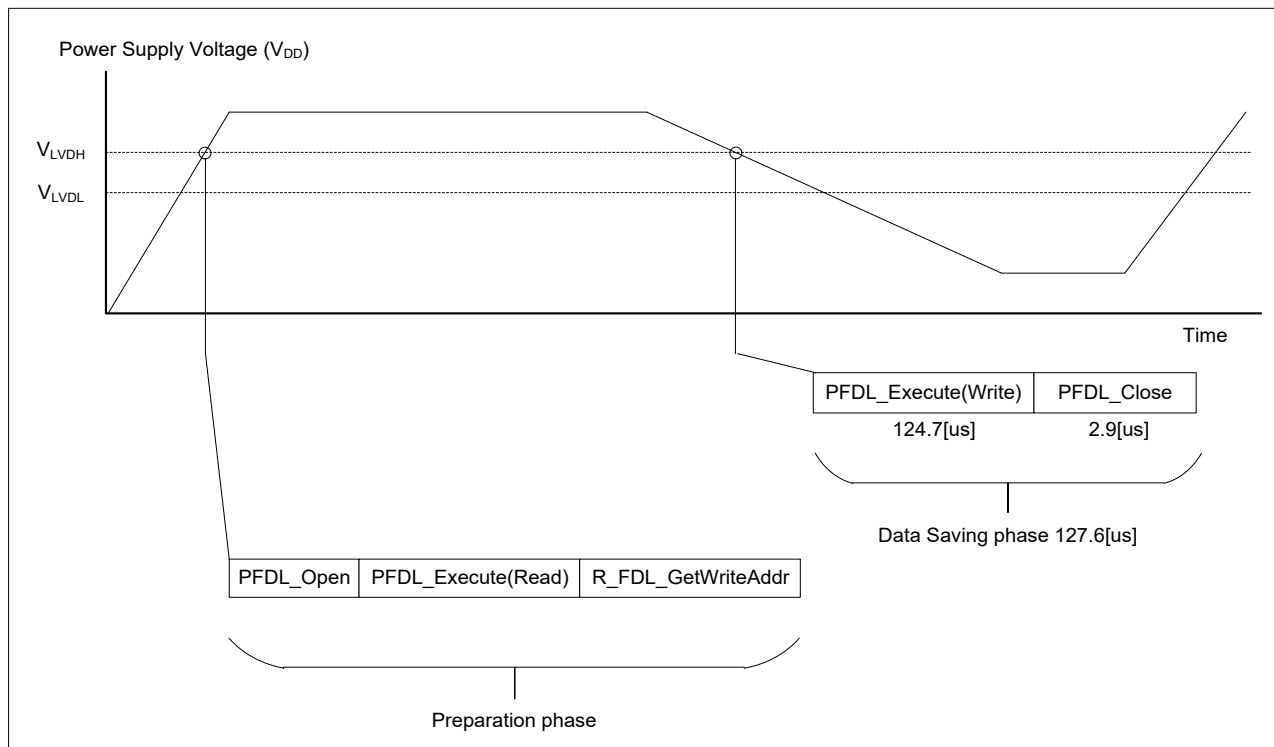

Figure 2.5 Data Saving Processing (by a two-step processing)
**Figure 2.4** shows the data saving processing when it is performed by a batch processing. **Figure 2.5** shows the data saving processing when it is performed by a two-step processing. The saving phase takes 187.4[μs] in the case of batch processing, and takes 127.6[μs] in the case of two-step processing.